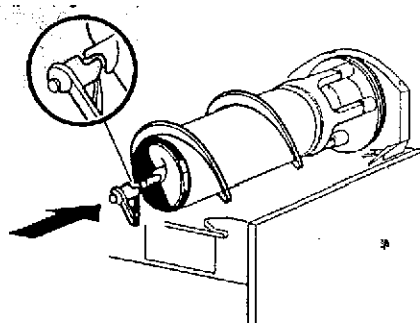

figure 16
6. Install the outer spiral. Slide it over the evaporator until its front notch engages with the exposed end of the auger shaft (see figure 16)